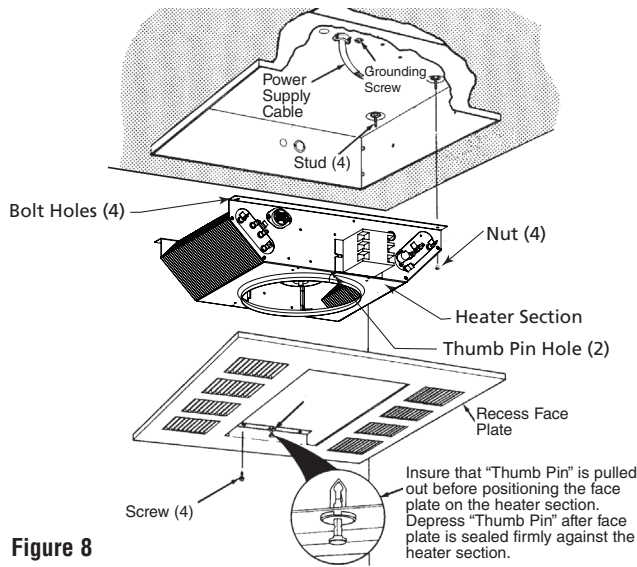

**Figure 6**
3. Remove the Recess Mounting Box (Figure 6) from the carton containing the Recess Mounting Enclosure, Type REA.
4. Remove one of the knockouts and install a cable or conduit connector (Figure 6).
5. Install the optional disconnect switch (if required) as shown in Figure 6.